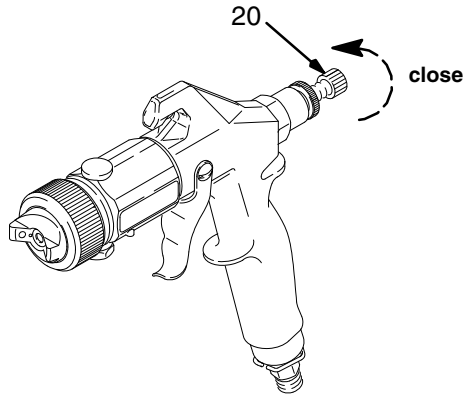

Fig. 8
3. If further fluid adjustment is needed at the gun, turn the fluid adjustment knob (20) clockwise to reduce the volume of fluid output and obtain the desired results. See Fig. 8.